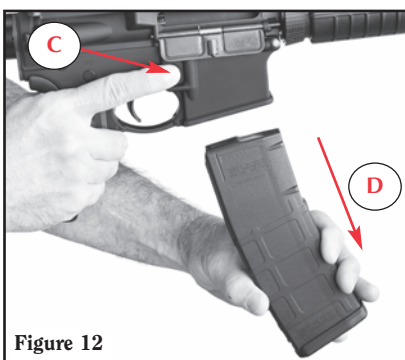

Figure 12
1. Removing the magazine. (See Figure 12.)